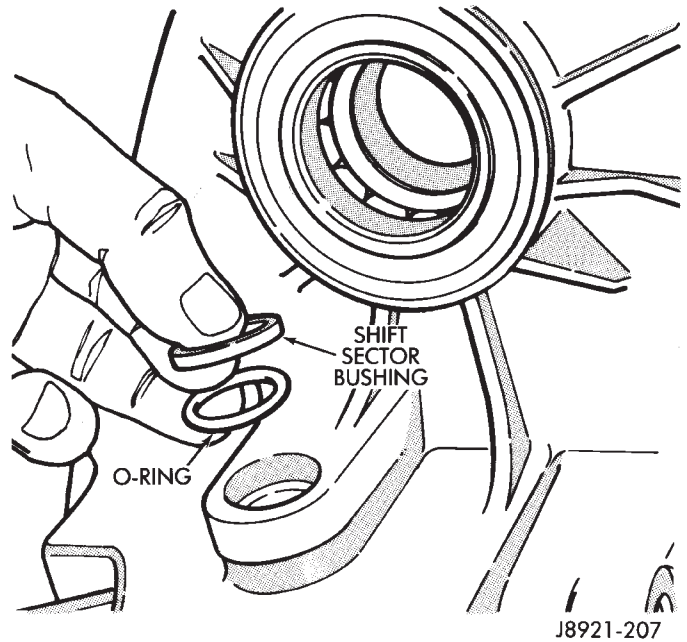

Fig. 32 Removing Sector Bushing And O-Ring
(40) Remove shift sector bushing and O-ring (Fig. 32).